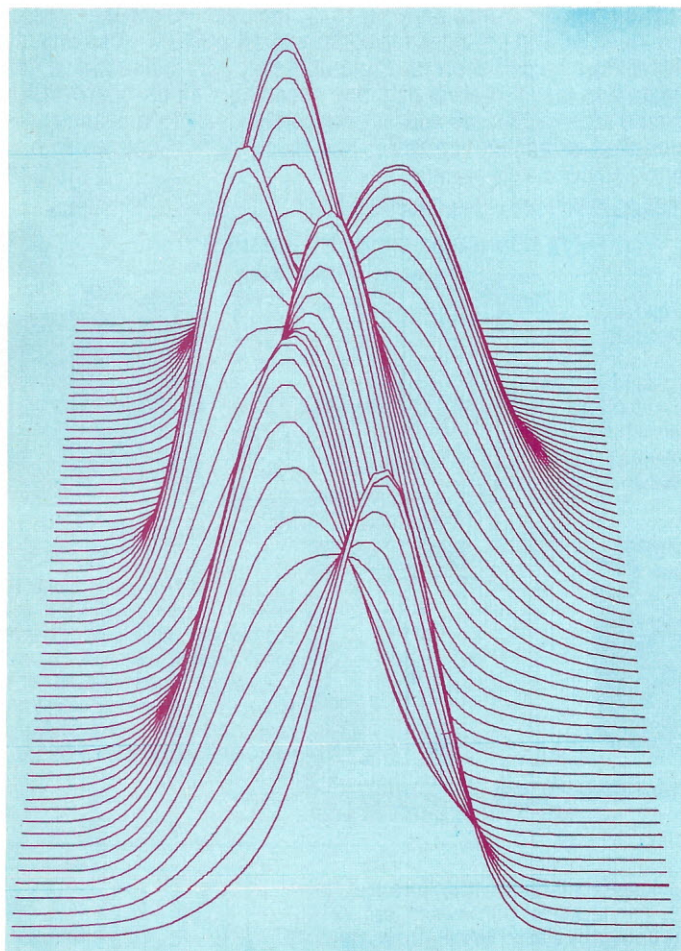

Fig. 1.
**Library of subroutines.** Instead of attempting to draw the picture illustrated in Fig. 1 as your first project, you might be advised to start with more basic figures. Starting with a straight line segment, you'll quickly be able to draw rectangles, circles and other figures. Then you can use these to draw more complex figures. Once you write a program to draw a composite figure, you need not reinvent that program. In this way you will soon have a library of subroutines that will make your drawings quicker, more satisfying and under your command.